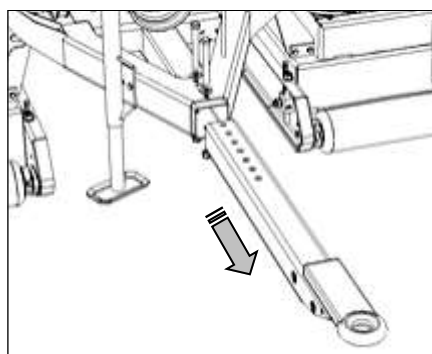

Fig. 15
3. Withdraw the tow hitch from the mower and turn it over to change the tow hitch height (Fig. 15).